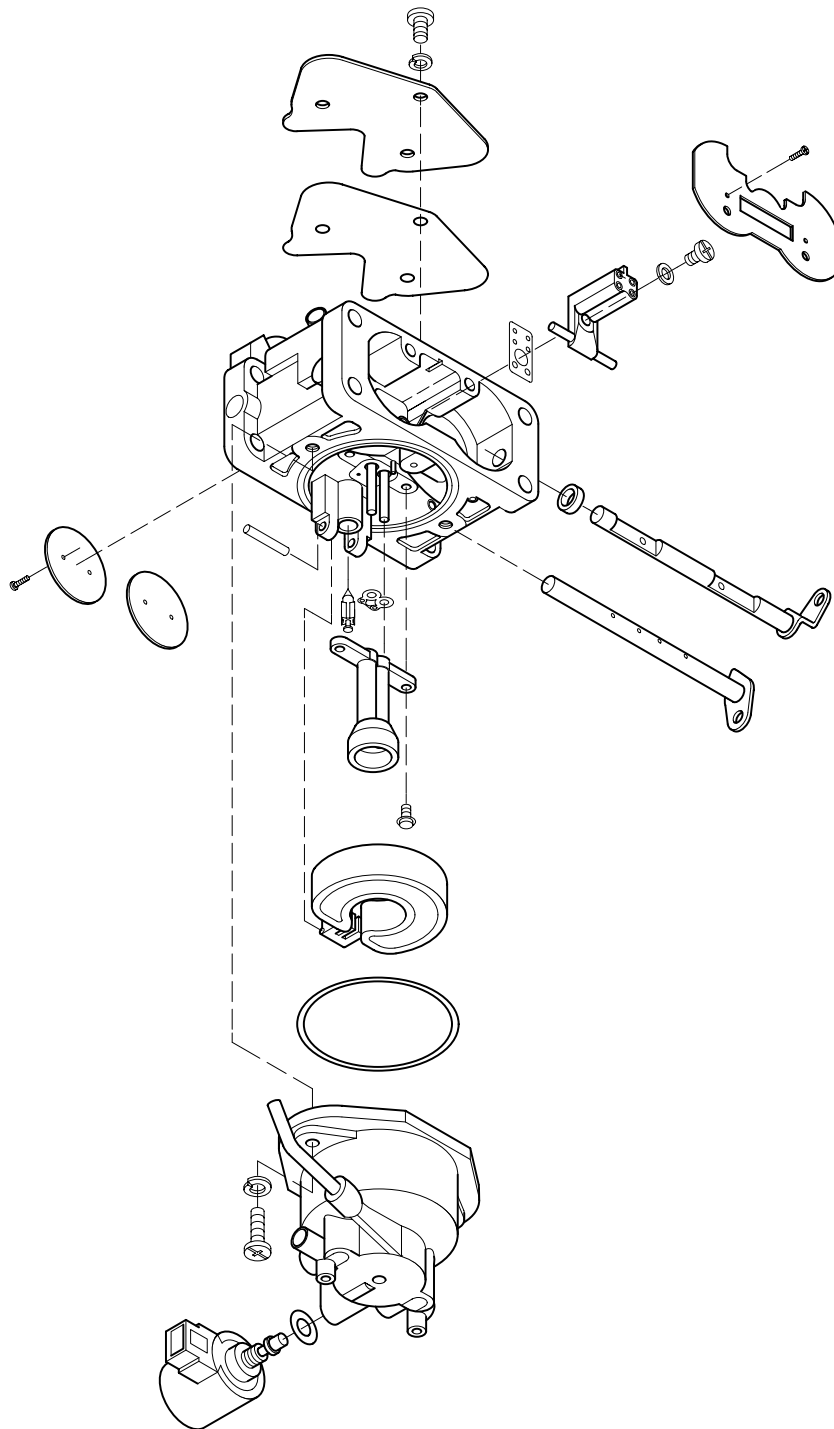

**Fig. 113**
21. Place new gasket (31) on lower carburetor body. Make sure holes in body line up with holes in gasket, **Fig. 113**.
22. Install upper carburetor body. Tighten screws (30) securely.
23. Install pilot jet (29).
24. Install washer (34) and plug (35) or anti-afterfire solenoid (33). Torque to **45 in. lbs. (5 Nm)**.